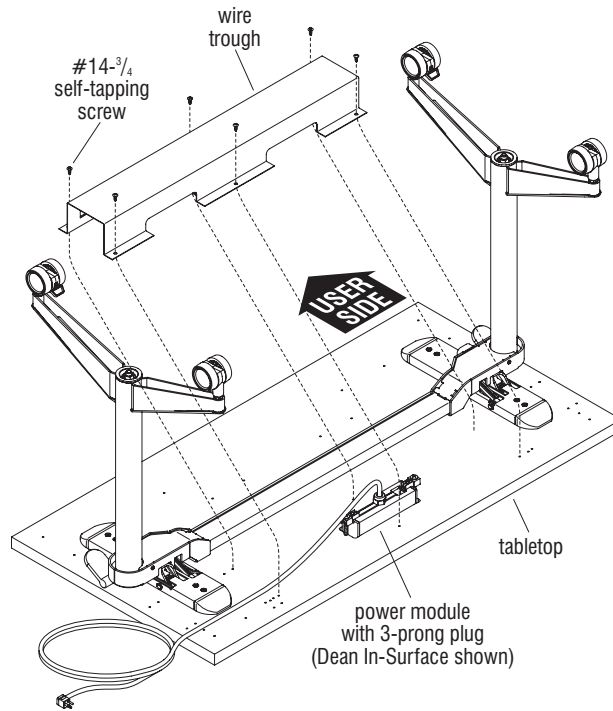

Figure 1
2. If wire trough is provided, position the wire trough over the underside of the power module as illustrated, with the two smaller rectangular RPT mounting holes facing the back edge of the table. Route the power cord out of the end of the trough. Align the wire trough mounting holes with the pre-drilled holes in the underside of the tabletop, and secure wire trough to tabletop using six #14 x $\frac{3}{4}$ " self-tapping screws. Do not over-tighten (Figure 1).